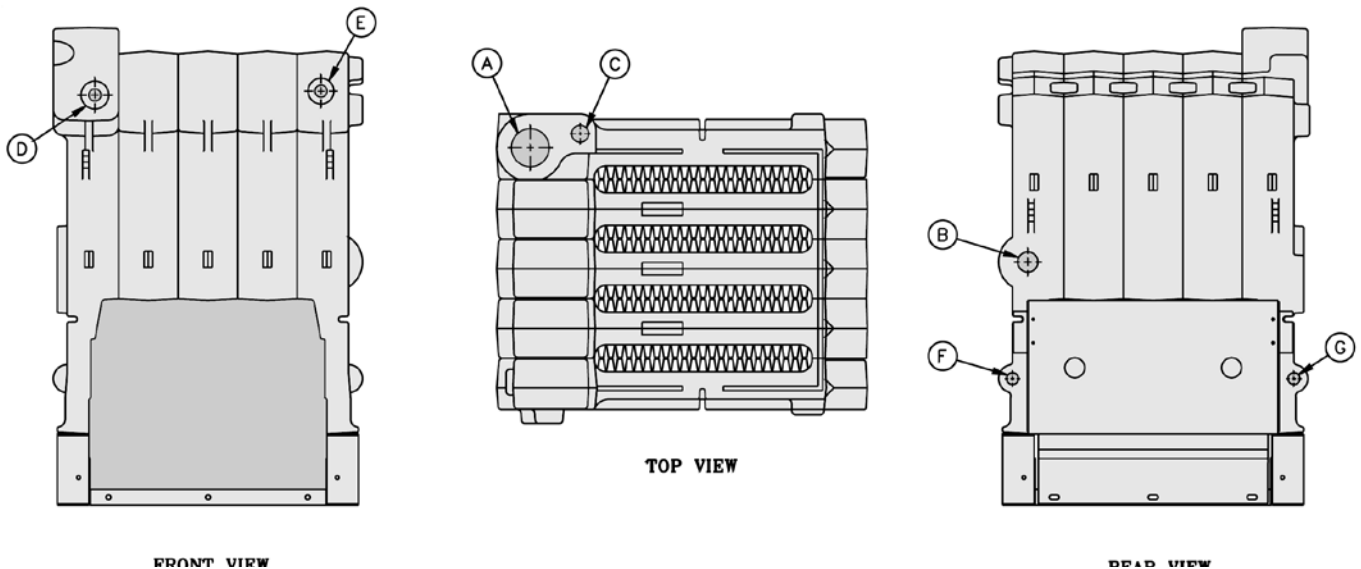

Figure 3: Tapping Locations
C. Test Section Assembly for leaks before connecting to system and installing controls, trim and jacket. Refer to Figure 3 and Table 3.
2. Insert Immersion Well in Tapping D. See Figure 3.